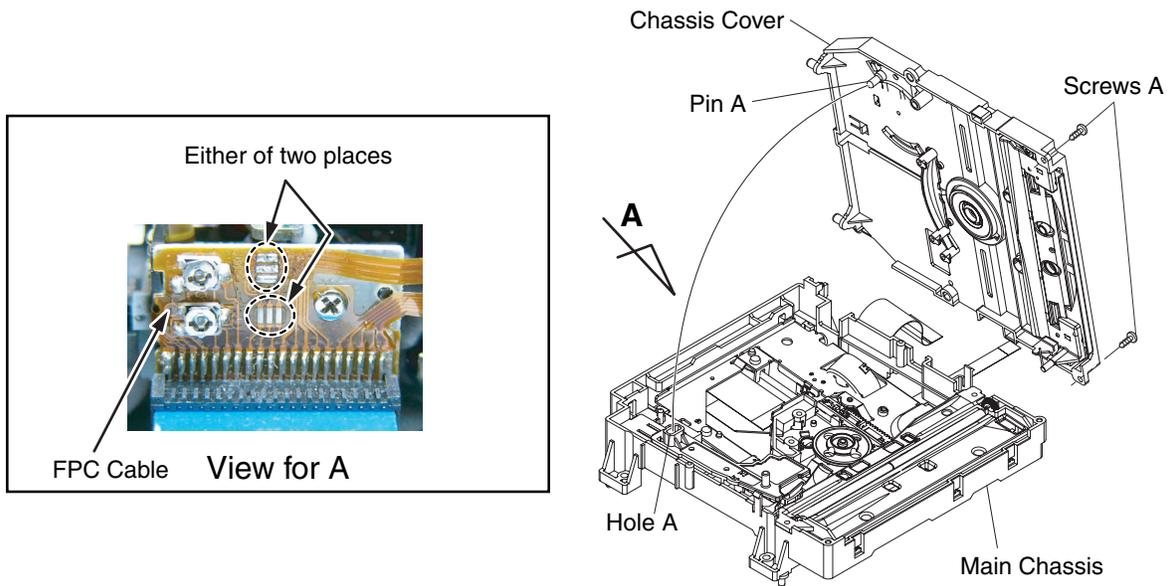

Fig. D2
- 1) Short the three short lands of FPC cable with solder before removing the FFC cable (CN201) from it. If you disconnect the FFC cable (CN201), the laser diode of pickup will be destroyed. (Fig. D2)
- 2) Disconnect Connectors (CN301), (CN401), (CN601) and (CN801). Remove Screw (S-7) and remove the DVD Main CBA Unit. (Fig. D2)
- a. To remove the Chassis Cover, remove two screws A as shown in Fig. D2.
- b. To avoid damage of the pickup unit (laser diode), confirm that the three short lands (either of two places) are shorted out by soldering between them as shown in View A in Fig. D2.
- e. Insert the pin A on the Chassis Cover into the hole A on the Main Chassis as shown in Fig. D2. Then tighten two screws A to install the Chassis Cover.
3. **CAUTION 2:** When reassembling, confirm the FFC cable (CN201) is connected completely. Then remove the solder from the three short lands of FPC cable. (Fig. D2)
- 2) To remove the DVD Main CBA Unit, remove a screw (S-7) in Fig. D2. Do not disconnect connectors.
- 3) To remove the Chassis Cover, remove two screws A as shown in Fig. D2.